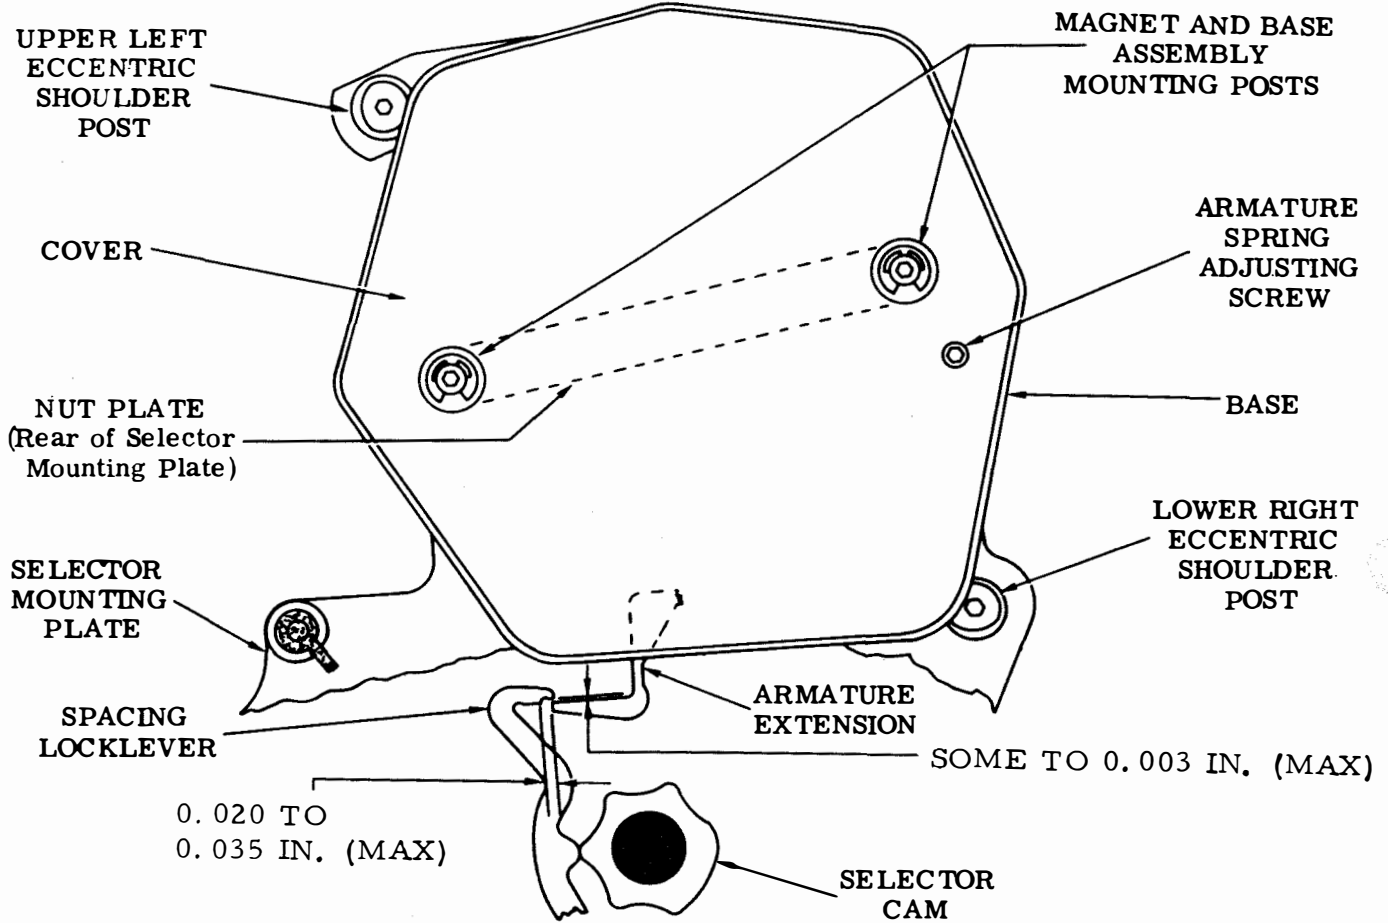

Figure 6-97. Selector Base (Magnets Energized - PFI), Front View
- (1) Refer to Figure 6-97.
- (2) Position spacing locklever on high part of cam.
- (3) Place armature in contact with left pole piece.
- (4) Measure clearance between end of armature extension and shoulder of spacing locklever. Clearance should be between 0.020 and 0.035 inch maximum.
- (5) Measure clearance between upper surface of armature extension and upper step of spacing locklever with locklever held downward. There should be some clearance not exceeding 0.003 inch maximum.
- (6) If either clearance exceeds specified limits, use a 1/16-inch hex wrench to loosen two magnet and base mounting posts to point of friction tightness.